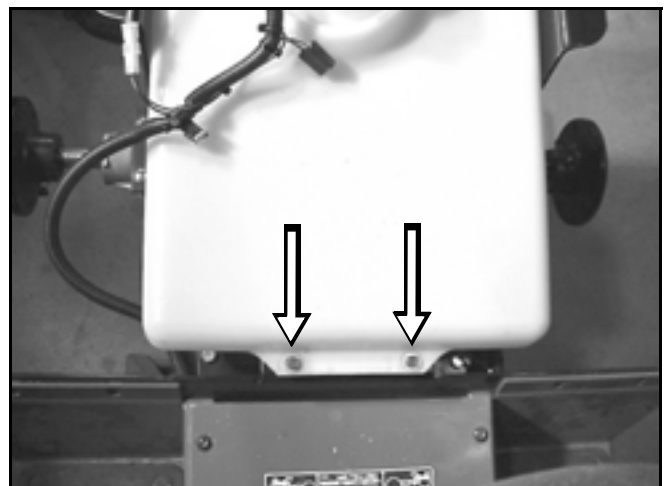

Figure 53
2. Remove the two screws and spacers in the front of the gas tank (Figure 53).